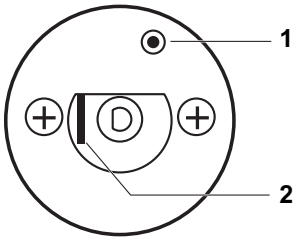

Fig. 5 Triggering the manual reset high limit
- Push the lever or key (depending on the type of STB) back with a screwdriver or similar device and hold until the high limit safety cut-out has triggered (Fig. 5).